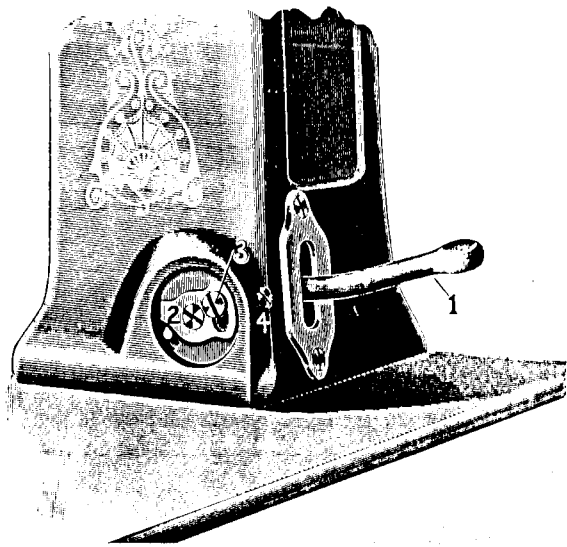

Fig. 14
Raise feed regulating handle (1, see Fig. 14) as high as it will go and the machine will feed from you with the longest stitch. As the handle is pushed downward the stitch shortens until the goods will not move; continuing the downward movement of the handle reverses the feed and moves the goods toward you to tack or make fastening off stitches. If the stitch changes length while the machine is running, tighten screw (4). If the handle moves too hard, loosen screw (4) until it moves as easily as desired.
The upward movement of the feed regulating handle (see Fig. 14) may be stopped at any position desired by setting stop (2) for the purpose. Should the stitch be shortened or reversed, this adjustment assures the return of the feed to the same length of stitch used before making the change.